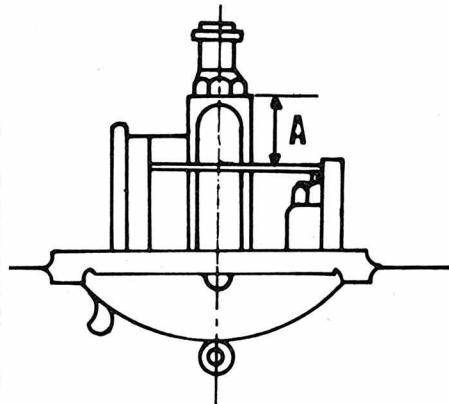

Fig. S12-3—Float level (A) on later models is checked by measuring from float arm to jet holder boss with mixing chamber body inverted.
Pilot air screw (9) should be 1½ turns out from a lightly seated position on SC type carburetors and 1¾ turns out on SH type units. Final adjustment of air screw should be within ¼ turn of standard setting. Float level should be 28 MM (1.1 inch) on units with one piece float/float arm assembly. Level on these units is measured from bottom of float with carburetor inverted to gasket surface of mixing chamber body with gasket removed. Float level (A—Fig. S12-2) should be 23 MM (0.90 inch) on TS 250 (VM 28 SC) units with separate floats and float arm. Float level (A—Fig. S12-3) should be 15 MM (0.59 inch) on TS 250 R (VM 28 SH) models. Level on all models is adjusted by bending tang (B—Fig. S12-2).